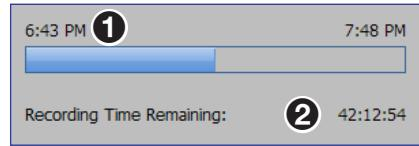

Figure 34. Progress Bar and Recording Time Available
A progress bar (see figure 34, ①) below the recording control buttons is a horizontal bar graph that shows how much recording time has elapsed and, if it is a scheduled session rather than an ad hoc recording, how long the presentation is expected to last. For an ad hoc recording, initially the progress bar shows a five minute duration. The displayed duration increases in five-minute increments as the ad hoc recording progresses.